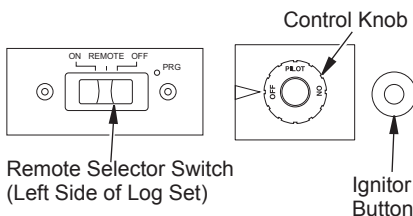

Figure 27 - Remote Selector Switch, Control Knob and Ignitor Button
4. Set remote selector switch in the REMOTE position (see Figure 27).
5. Press in and turn control knob clockwise  to the OFF position (see Figure 27).
6. Wait five (5) minutes to clear out any gas. Then smell for gas, including near the floor. If you smell gas, STOP! Follow "B" in the safety information, page 17. If you don't smell gas, go to the next step.
7. Press in and turn control knob counter-clockwise  to the PILOT position. Press in control knob for five (5) seconds (see Figure 27).
1. Press on/off key on remote control and turn control knob clockwise  to the OFF position (see Figure 27, page 18).
When batteries in receiver are low, no acoustic signal will be given when ON/OFF button is pressed. If batteries in receiver are low, fireplace can be switched on manually by moving remote selector switch to ON (see Figure 27, page 18).